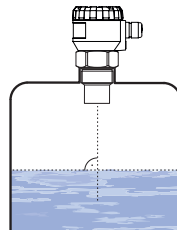

Fig. 1: Recommended installation in the tank
- Install the level meter in the **vertical position** into the upper lid of the tank or reservoir using a welding flange, a fastening nut or a flange so that the level meter axis is perpendicular to the surface level of the measured liquid (Fig. 1).